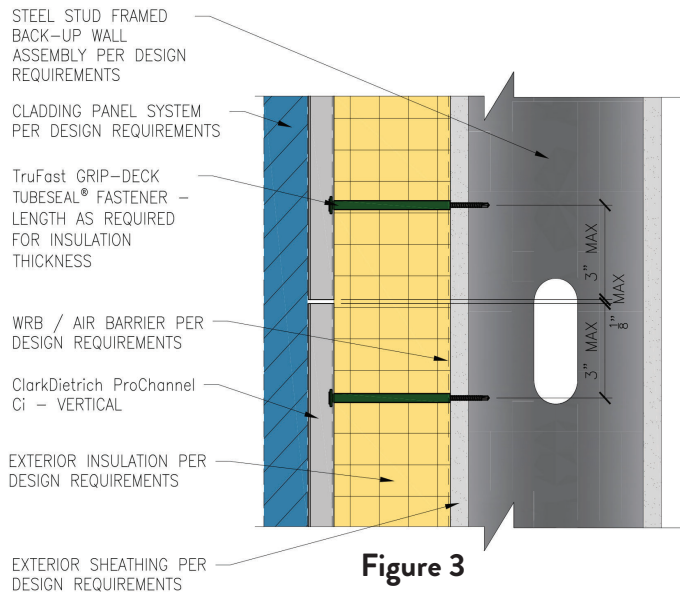

Figure 3
Step 3 Abutting ProChannel Ci™ channels shall have a min 1/16" to max 1/8" gap to accommodate for expansion and stepped to avoid concurrent joints on the vertical steel-stud. (see Fig. 3 for details).